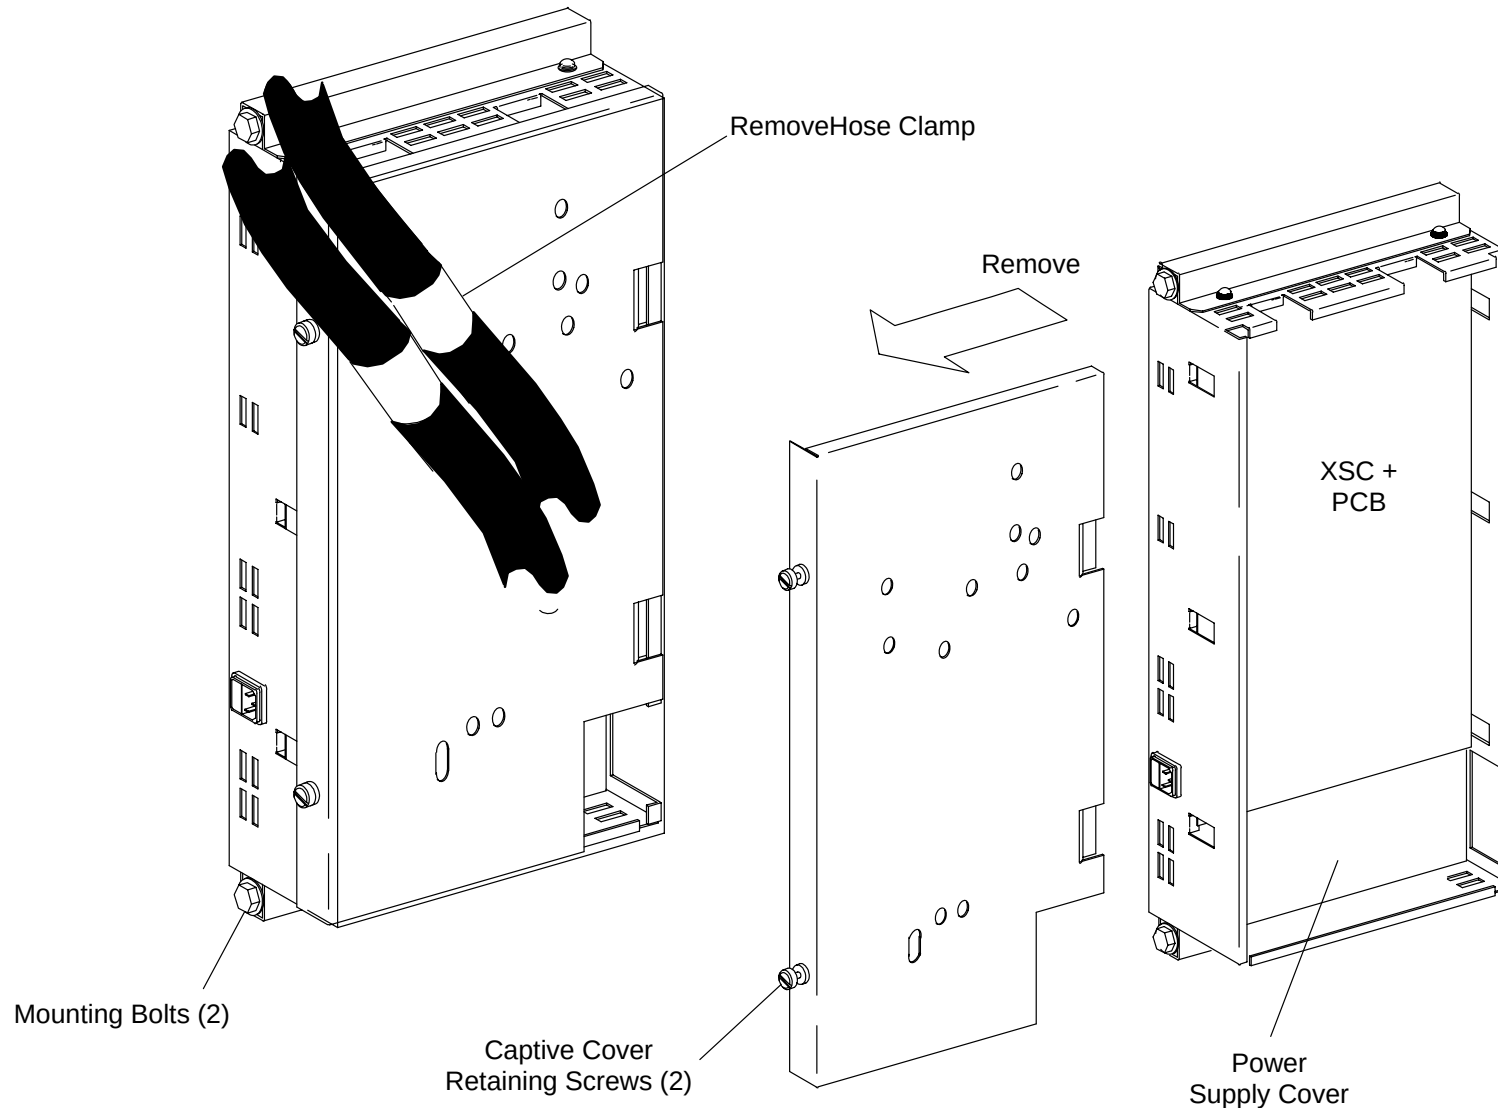

FIGURE 256 XSC+ Chassis Cover and Hose Clamp Removal
4. Remove Hose Clamp from side of the XSC+ Chassis and move Hoses out of the way. See Figure 256.
6. Remove the two mounting bolts, their washers and lock washers that secure the XSC+ to the scan frame. Screw extender pins into the holes – tighten hand tight only. See Figure 256.
7. Unscrew the two Captive Slot Head Cover Screws and remove the Cover. See Figure 256.